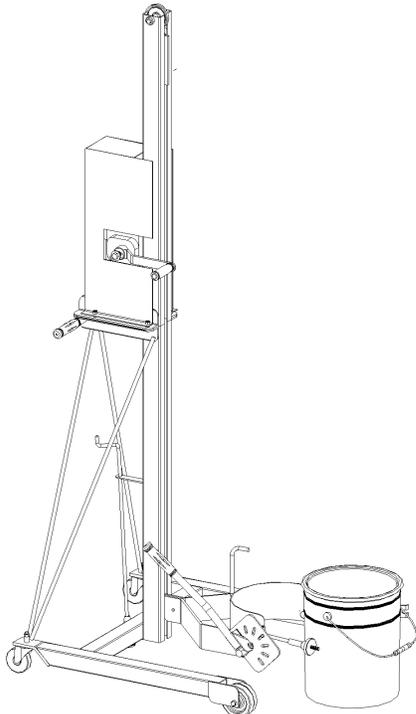

Figure 1
- 2.) Using the cable winch, crank the handle to position the pail holder assembly with the back band at the middle of the pail. (see Figure 1). If the pail has a pivoting wire handle, swing it to lay on the front side to clear the back band. With the front band hinge plate and clamp screw knob swung open, push the unit forward until the back band rests firmly against the pail. Engage the screw down floor lock.